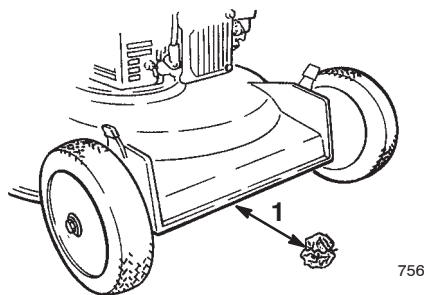

Figure 12
- Take a half sheet of newspaper and crumple it into a ball small enough to go under the deck (about 3 inches or 76 mm in diameter) as shown in Figure 12.
- Place the ball of newspaper 5 inches (12.7 cm) in front of the lawn mower (Fig. 12).